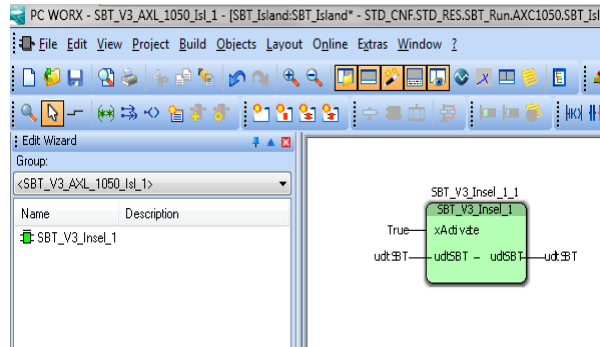

Figure B-5 Connecting the function block
- Connect the function block as shown in Figure B-5.